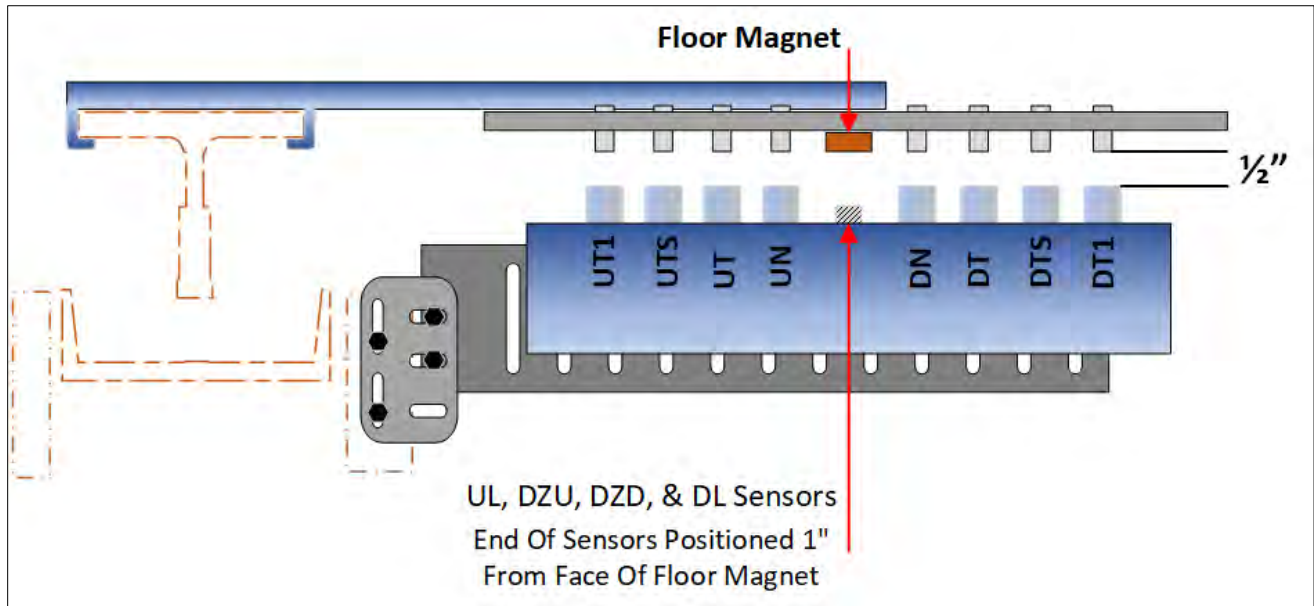

Figure 2-28: Tapeless Selector 5 Top View.
The "Tapeless Selector 5" is similar to the "Tapeless Selector 7". However, the "Tapeless Selector 5" includes the leveling sensors within the limit switch box and requires a J-hook bracket at each floor for mounting the floor magnet. See Figures 2-28, 2-29, and 2-30.
- Mount the limit switch box mounting bracket to the cross head ensuring that the mounting is plumb and level. See Figures 2-28 and 2-30.
- Mount the limit switch box to the mounting brackets. The selector box should be positioned to allow for a distance of 1/2 inch from the face of the magnetic switch to the end of the actuating magnets that will be installed in step 3. See Figures 2-28 and 2-30.
See Figures 2-28, 2-29, and 2-30.
- Mount a J-hook bracket at each floor for the floor level magnet. See Figures 2-28 and 2-30.
- Adjust the leveling sensors so that the end of the sensors are 1 inch from the face of the floor magnet. See Figure 2-28. This distance may be adjusted in section 3.3.8.3 to provide the correct "floor level zone".
- Mount a J-hook bracket with a **GREEN** actuating magnet for each magnetic limit switch at the proper distance from the top terminal landing. See Table 2-1 for the proper distance. See Figures 2-28 and 2-30. for the proper position of the actuating magnet on the J-hook bracket.
- Mount a J-hook bracket with a **RED** actuating magnet for each magnetic limit switch at the proper distance from the bottom terminal landing. See Table 2-1 for the proper distance. See Figures 2-28 and 2-30 for the proper position of the actuating magnet on the J-hook bracket.
- The actuating magnets should be adjusted so that the end of the magnet is 1/2 inch from the face of the magnetic switch as the magnetic switch passes the actuating magnet. See Figure 2-28.